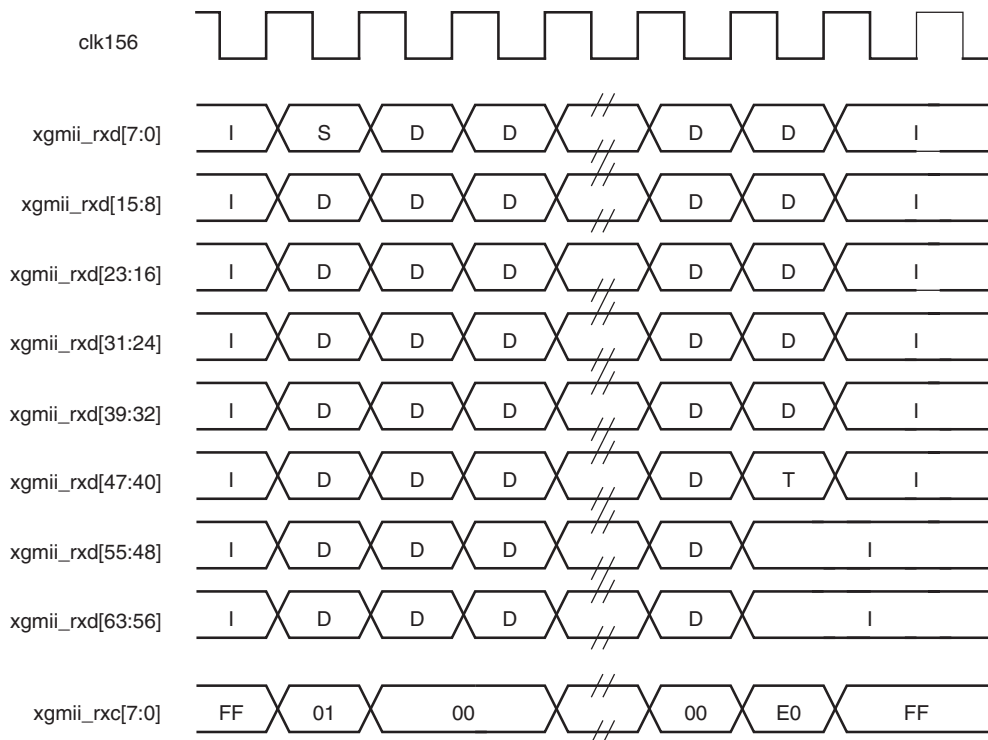

Figure 3-3: Frame Reception Across the Internal 64-bit Client Interface
The timing of a normal inbound frame transfer is shown in Figure 3-3. As in the transmit case, the frame is delimited by a Start character (S) and by a Terminate character (T). The Start character in this implementation can occur in either lane 0 or in lane 4. The Terminate character, T, can occur in any lane.